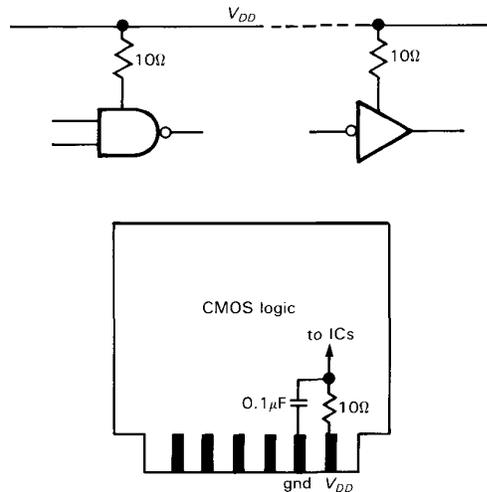

Figure 14.39. Supply current sensing ("current spy").
7. *Put current-sensing resistors in the  $V_{DD}$  lead.* In certain failure modes (see below), particularly those caused by static damage, a CMOS chip may draw excessive quiescent current; a 10 ohm resistor in series with  $V_{DD}$  on each board (bypass the load side) makes it easy to see if that is happening. Putting such a resistor on each chip (usually no need to bypass in this case) allows you to locate the bad chip quickly (Figure 14.39).